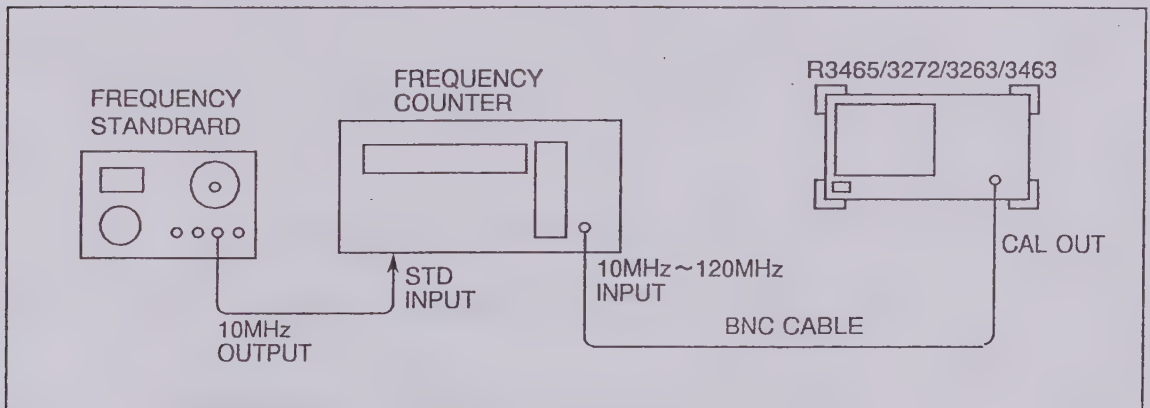

Figure 1-2 Frequency Reference Accuracy Test Setup
(1) Connect the equipment as shown in Figure 1-2.
(2) Set the Frequency counter controls as follows: